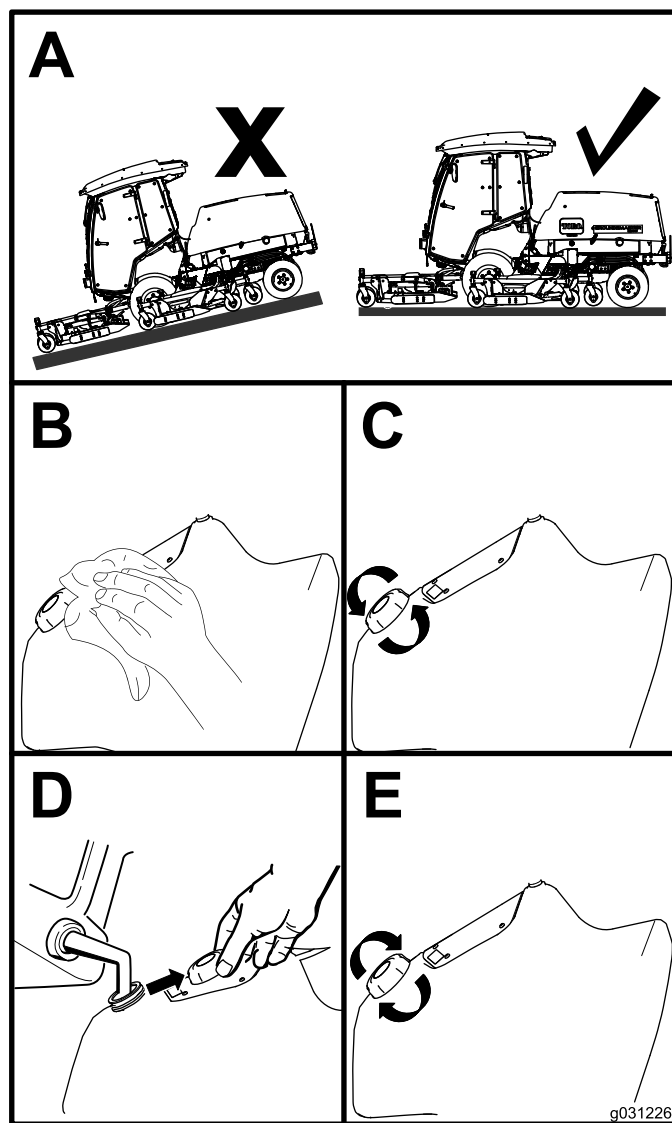

Figure 14
1. Park the machine on a level surface (Figure 14).